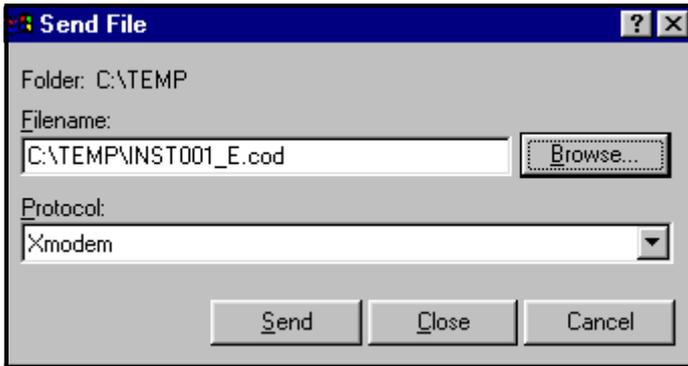

Figure 135: The Send File Window in the Transfer Menu
5. In the Hyperterminal window, pull down the Transfer menu and click *Send File*. A window opens similar to Figure 135 below.